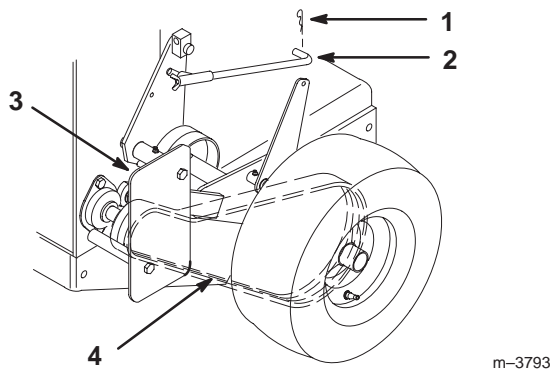

Figure 45
1. Remove hairpin cotter securing brake rod to brake arm to relax belt idler tension (Fig. 45).
2. Remove bottom and loosen top bolts of shield to rotate for belt clearance (Fig. 45).
3. Lift belt past idler and off drive pulley (Fig. 45).
6. Secure shield with previously removed bolt and tighten bolts (Fig. 45).
7. Secure brake rod to brake arm with hairpin cotter (Fig. 45).